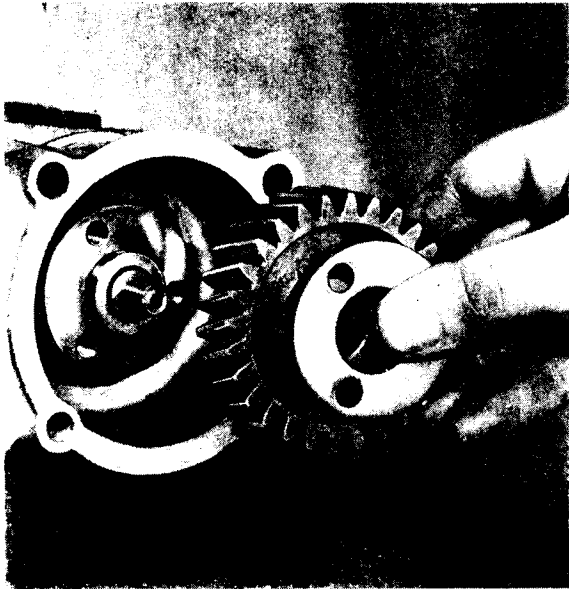

Fig. J.3.
6. Remove the retaining plate securing the auxiliary drive gear to the auxiliary drive shaft hub and withdraw the gear (Fig. J.3).